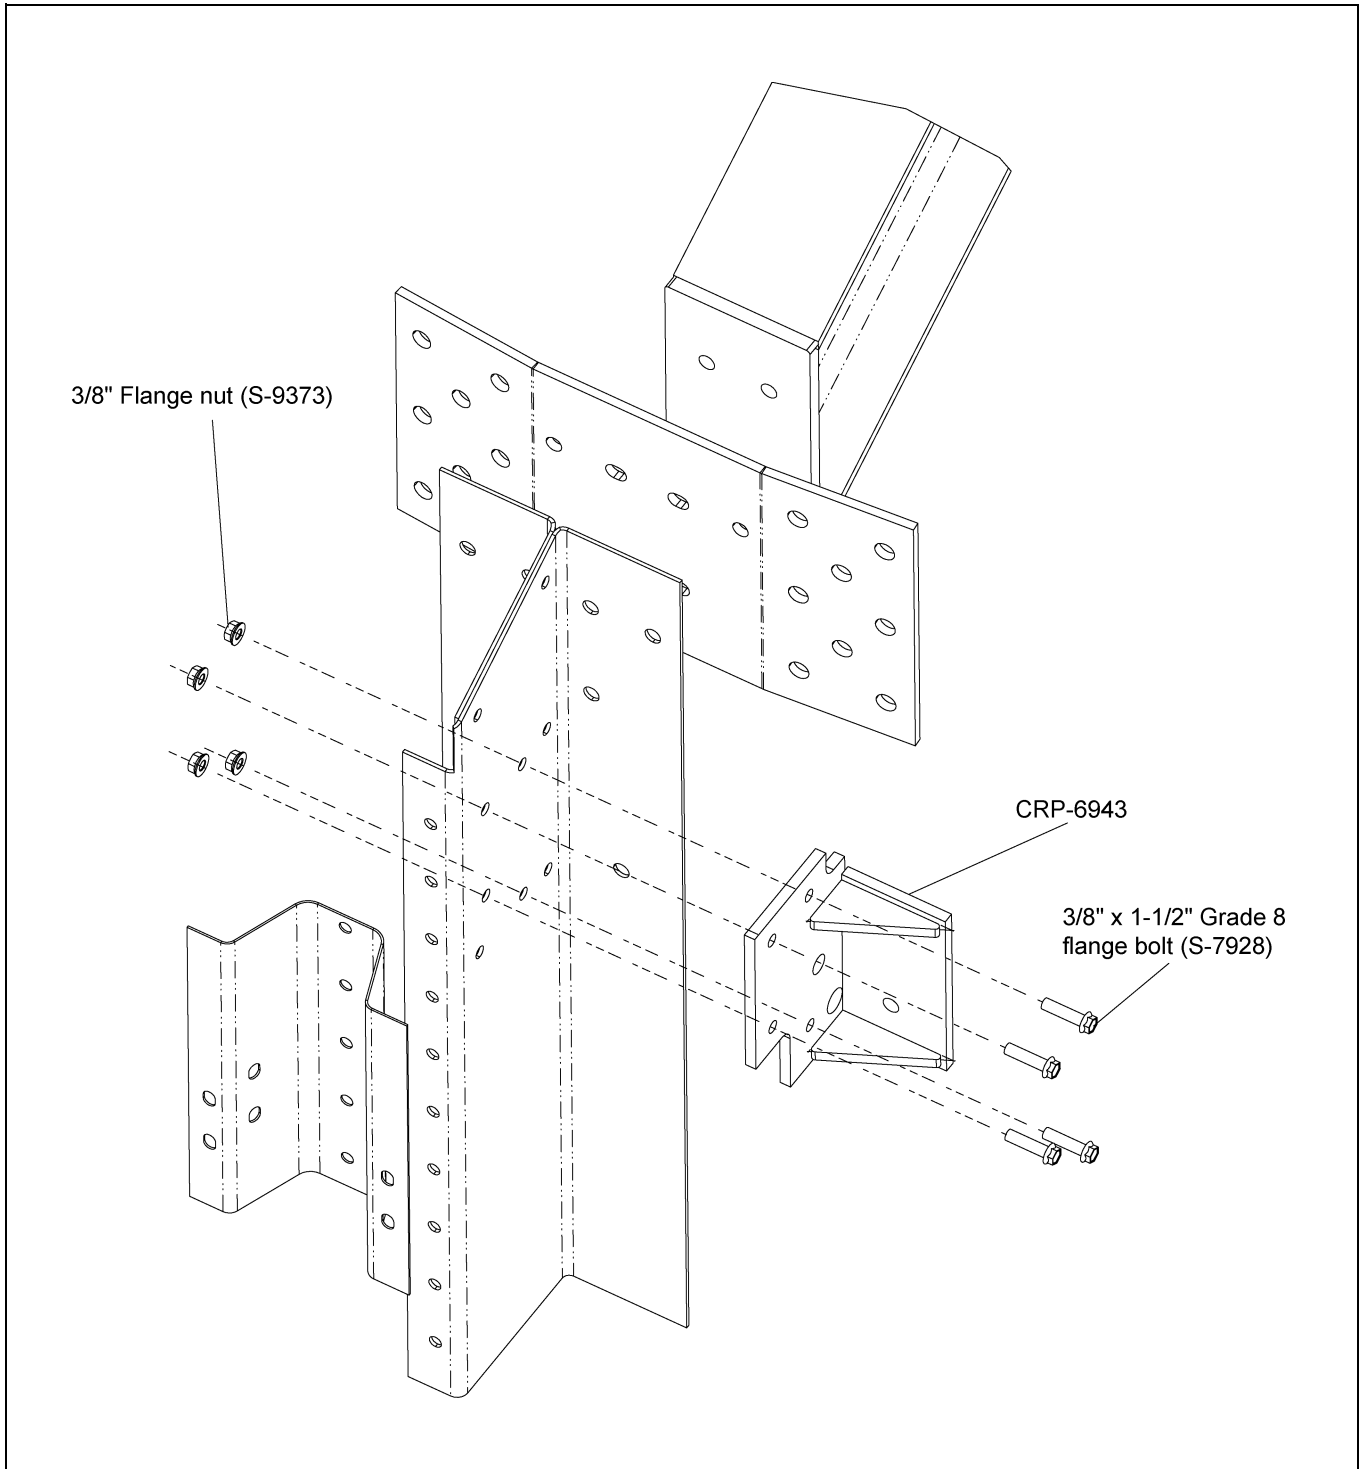

Figure 4B
2. Install CRP-6943 to every roof beam stiffener as shown in Figure 4B using four (4) 3/8" x 1-1/2" grade 8 flange bolts (S-7928) and flange nuts (S-9373).